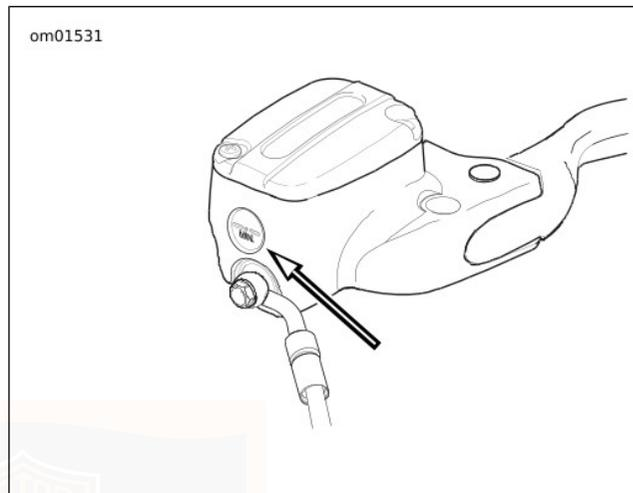

Figure 49. Clutch Reservoir Sight Glass
2. See Figure 49. View reservoir sight glass and verify fluid level is at or above the Min line. If fluid level is low, proceed to next step.